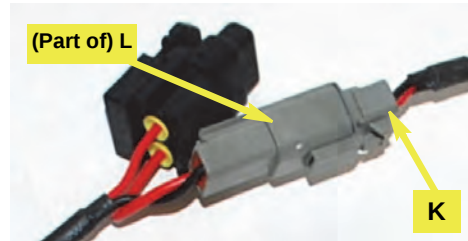

Figure 8c: Power cable to junction box cable
- d. Connect the gray connector of the power cable **K** (routed into the cab at step 8a) to the gray cable from the junction box **L** (Figure 8c).